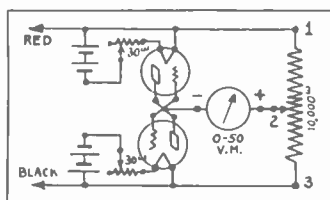
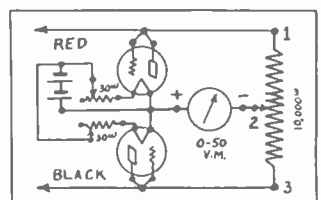

FIG. 100
FIG. 101
Assemble the remaining parts as shown in Fig. 100.
4. Hold the test prods of Fig. 100 in the slots of Socket No. 2 and note the deflection.
5. Reverse the test prods in the slots of Fig. 100 and again note the deflection. If this deflection differs from that obtained in Procedure No. 4 then adjust the potentiometer dial slightly until the deflections are alike in these two procedures.
11. In this procedure the highest reading is obtained at that adjustment near the center of the dial where the path of electron flow has equal impedance for the forward and reverse directions of flow. This requires knowledge of the circuit over which the electrons travel for each half of the wave. We can trace one half of the wave by removing one of the tubes in Fig. 100.
Still consider only the bottom tube of Fig. 100 being used. Reverse the polarity of the battery. The circuit through the potentiometer is in the reverse direction as before. However, in addition the electrons also can enter the heated filament (the cathode) of the tube, continue to the anode and pass through the meter and rejoin the other portion of the electron stream at terminal No. 2 of the potentiometer. Thus the meter deflects.
We can now turn our attention to repeating each one of these tests while the circuit is changed and arranged as shown in Fig. 101. Each one of the observations will be identical with those described for Fig. 100. Therefore, either circuit can be used as a full-wave rectifier.
Comparing Fig. 100 with Fig. 101 will reveal that only a single set of batteries is needed for heating the filaments of both tubes in the latter circuit. Therefore, from a standpoint of economy, this last arrangement is preferred.
Figure 101 could be simplified still further in a permanent arrangement of a full-wave rectifier by using only one filament resistor. However, this will change filament voltages when removing a tube.